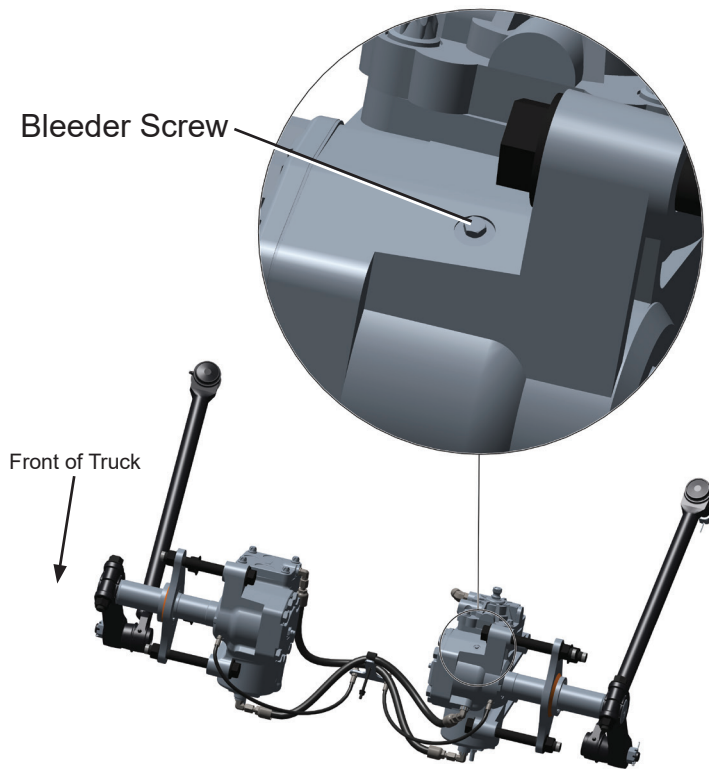

Figure 10
33. Locate primary steering gear bleeder screw, see Figure 10.